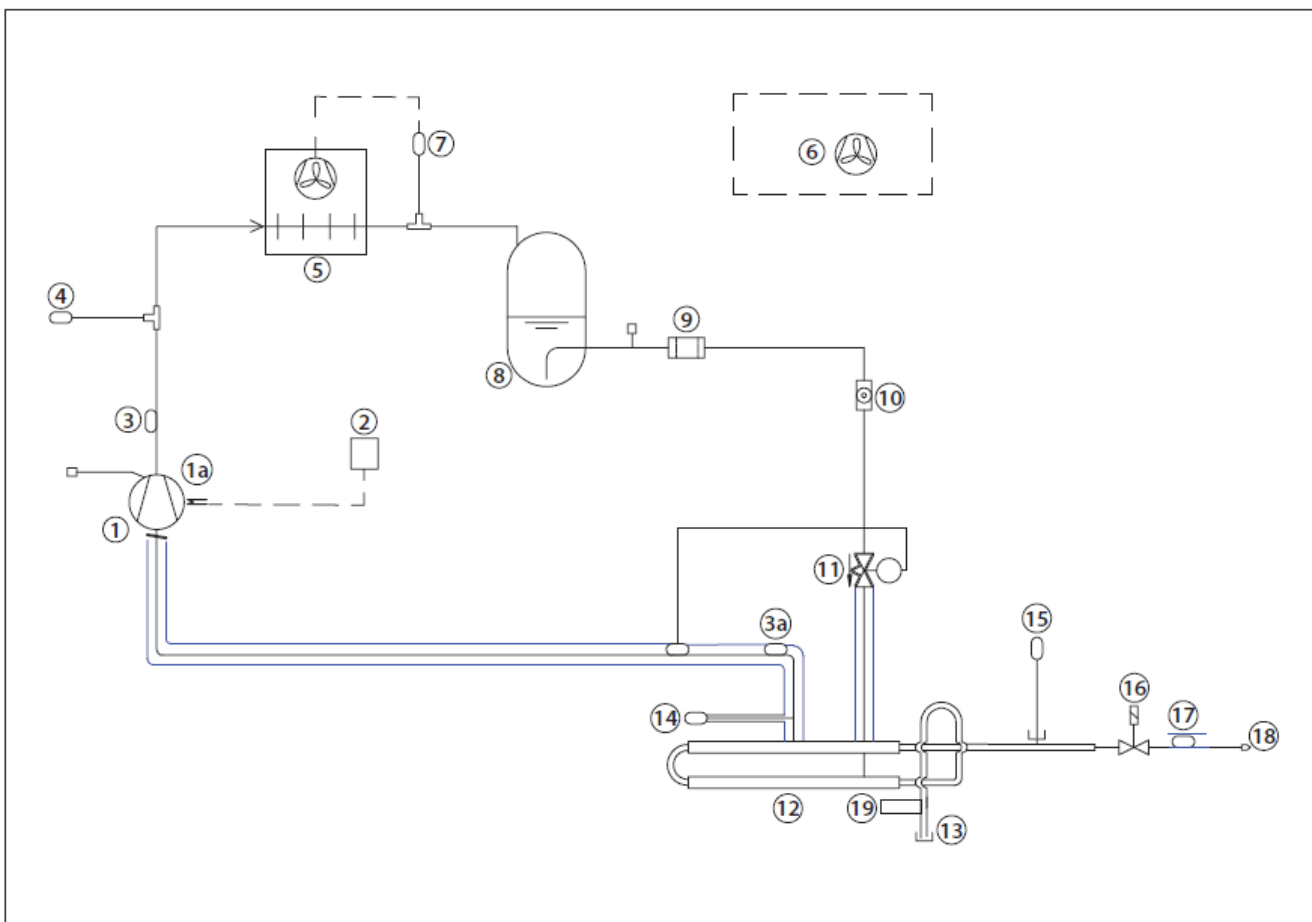

Fig. 1 - Purger R452A lay-out
- See Fig. 1 and Fig. 10a
- Only 1 mechanical connection is needed for the purger (see fig. 1).
- The flow of ammonia/NC gases from the main plant is done through the flange for ammonia (see 13 in Fig. 1 below), while the NC gas purge is done through the blow-off pipe after the purge restrictor (18).
- Through the flange for ammonia (13), a mixture of ammonia gas and NC gases enters the heat exchanger (12) part of the purger.
- At this point, ammonia gas condenses and returns by gravity to the ammonia plant whereas the NC gases accumulate in the heat exchanger (12) for subsequent purging.
- As the NC gas concentration in the heat exchanger (12) increases, the R452A heat exchanger pressure and temperature will simultaneously decrease.
- The controller continuously monitors the R452A heat exchanger pressure as well as ammonia pressure and temperature. When the R452A pressure reaches a predefined pressure difference when compared with the ammonia pressure (temperature) it prepares to purge the NC gases through the solenoid valve (16). The blow-off is activated by the solenoid (16) and through appropriate piping/hosing, should be led into a water bath.